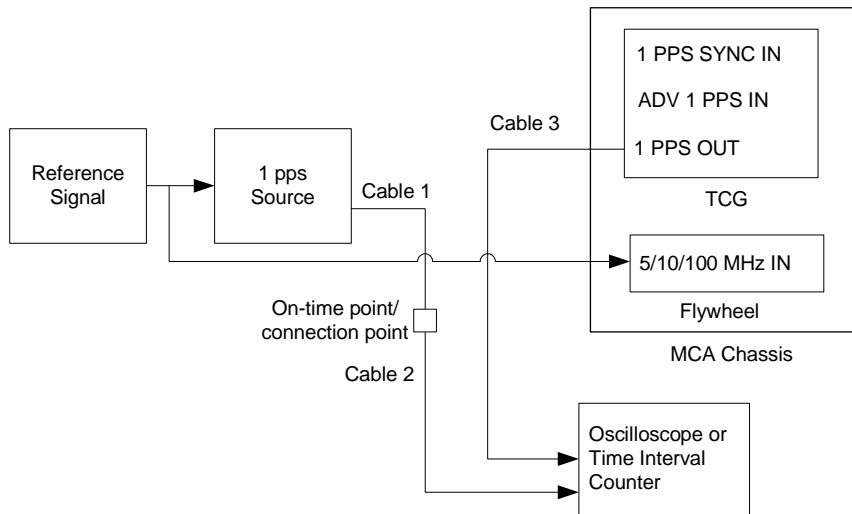

Figure 22: Connection configuration to check the 1 pps signal synchronization
Figure 22 shows the connections needed to check the 1 pps signal synchronization.
- This is Cable 1 in Figure 22.
- This is Cable 2 in Figure 22.
- This is Cable 3 in Figure 22.